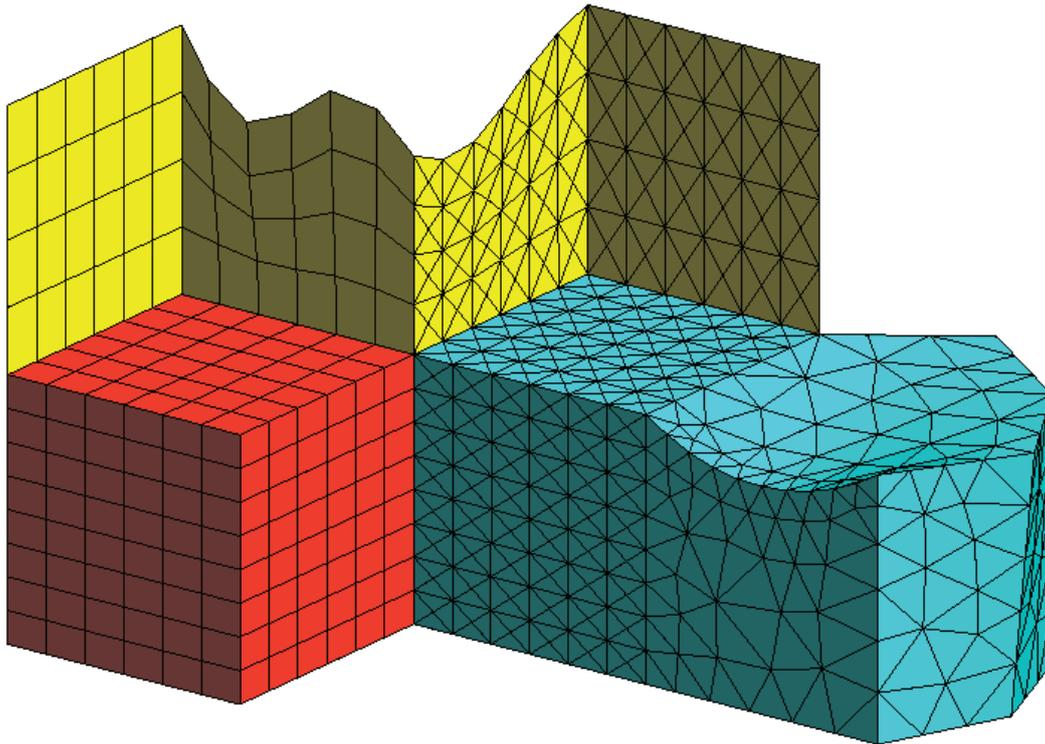
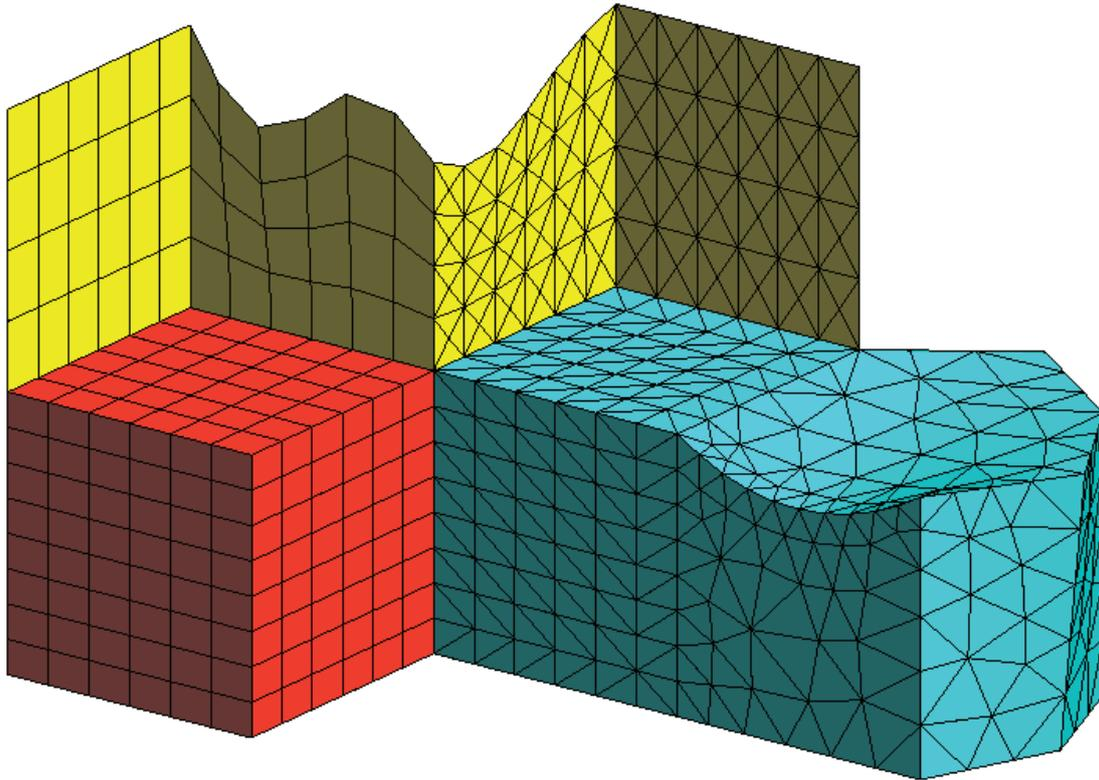

Figure 9. Structured volume mesh of hexahedra and tetrahedra.
Figure 10. Structured volume mesh of tetrahedra with the option Symmetrical structured tetrahedra not set.
- 10 . Another window comes up in which to enter the maximum element size. Leave the default value unaltered and click **OK** . The result is the mesh shown in Figure 10.
- 11 . GiD can obtain volume structured meshes made of hexahedra, tetrahedra or prisms. As can be seen in Figures 9 and 10, there are two kinds of tetrahedron structured mesh: the one shown in Figure 9 is obtained when the option **Utilities->Preferences->Meshing->Symmetrical structured->tetrahedra** is set. If this option is not set, the mesh presented in Figure 10 is produced (with fewer nodes than if using the previous option; also, it is not topologically symmetrical).